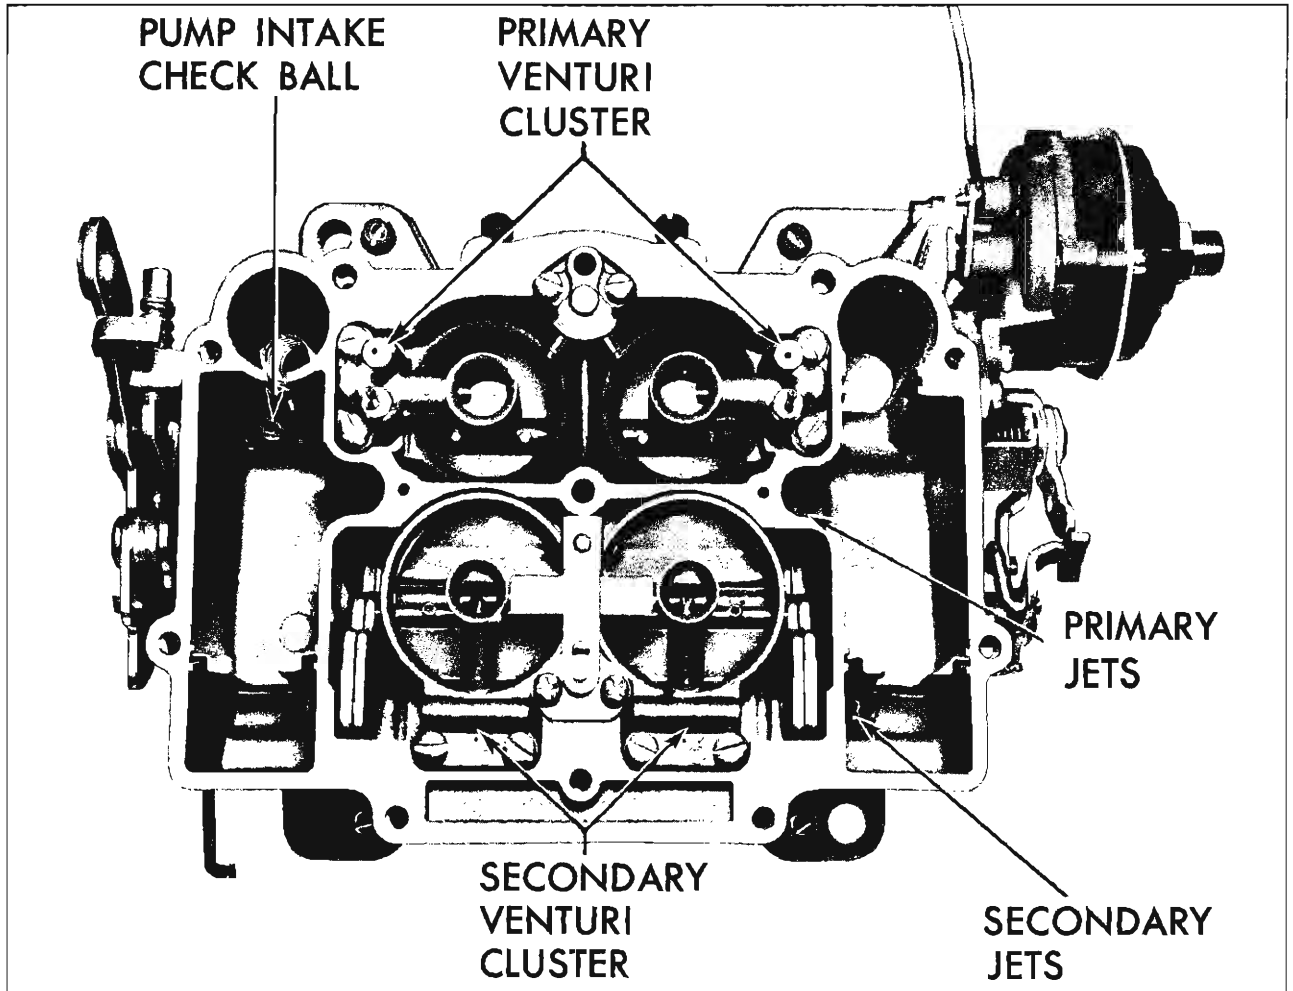

Fig. 44—Body Components
5. Install pump intake check ball and ball seat assembly with a new gasket (fig. 44). Install primary and secondary metering jets and tighten securely.